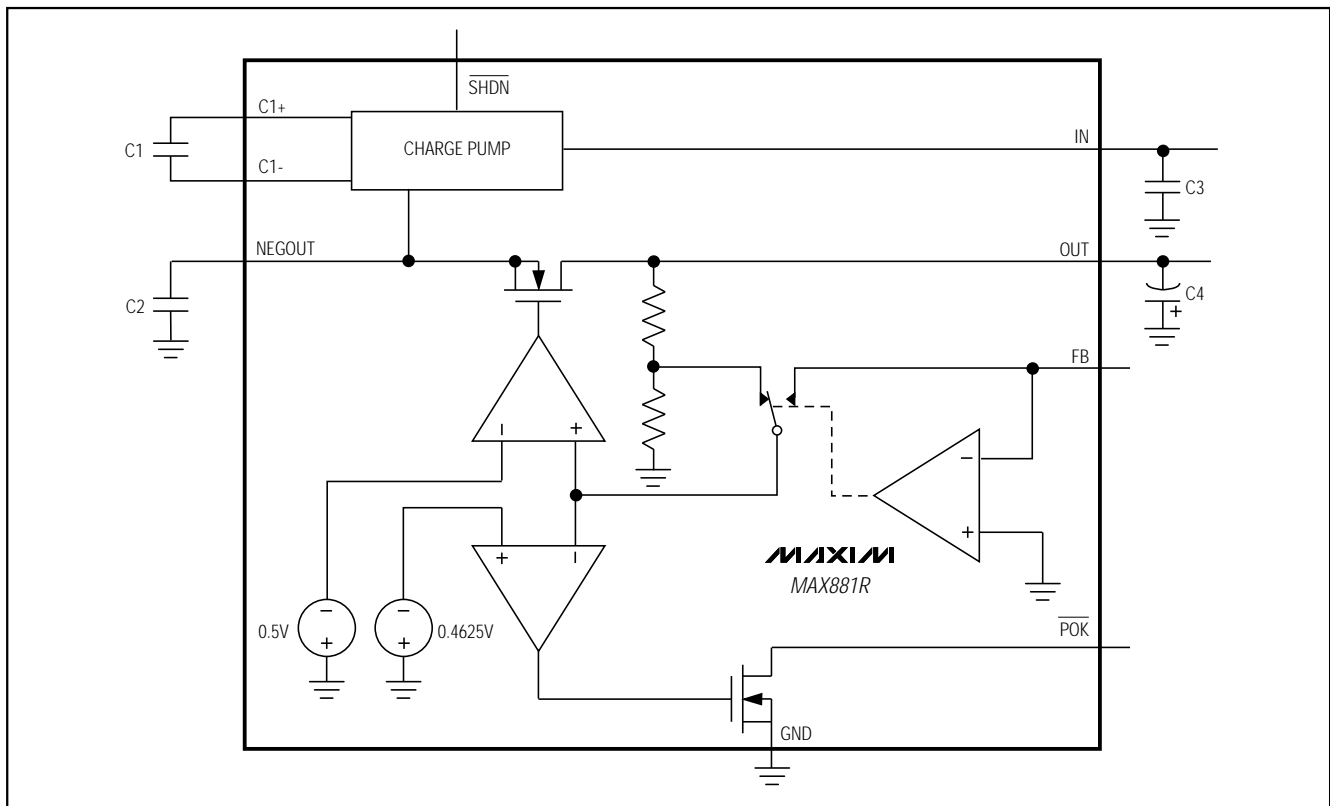
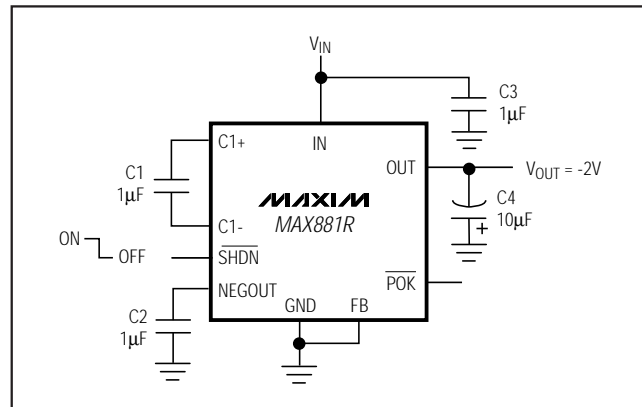

Figure 1. Functional Diagram
Figure 3b. Standard Application Circuit for Minimum Output Noise
**OUTPUT NOISE AND RIPPLE (CIRCUIT OF FIGURE 3b)**
**OUTPUT NOISE SPECTRUM (CIRCUIT OF FIGURE 3b)**
The applied input voltage ( $V_{\text{IN}}$ ) is inverted to a negative voltage at NEGOUT by a capacitive charge pump. This voltage is regulated by an internal linear regulator at OUT (Figure 1). With FB connected to GND,  $V_{\text{OUT}}$  is regulated at -2V. Alternatively, use a voltage-divider at FB to adjust the output voltage between -0.5V and  $-(V_{\text{IN}} - 0.6\text{V})$  (see the section *Setting the Output Voltage*). The internal linear regulator reduces the ripple noise induced by the charge-pump inverter to 1mVp-p at OUT (circuit of Figure 3b). In addition, the excellent AC rejection of the linear regulator attenuates noise from the incoming supply.